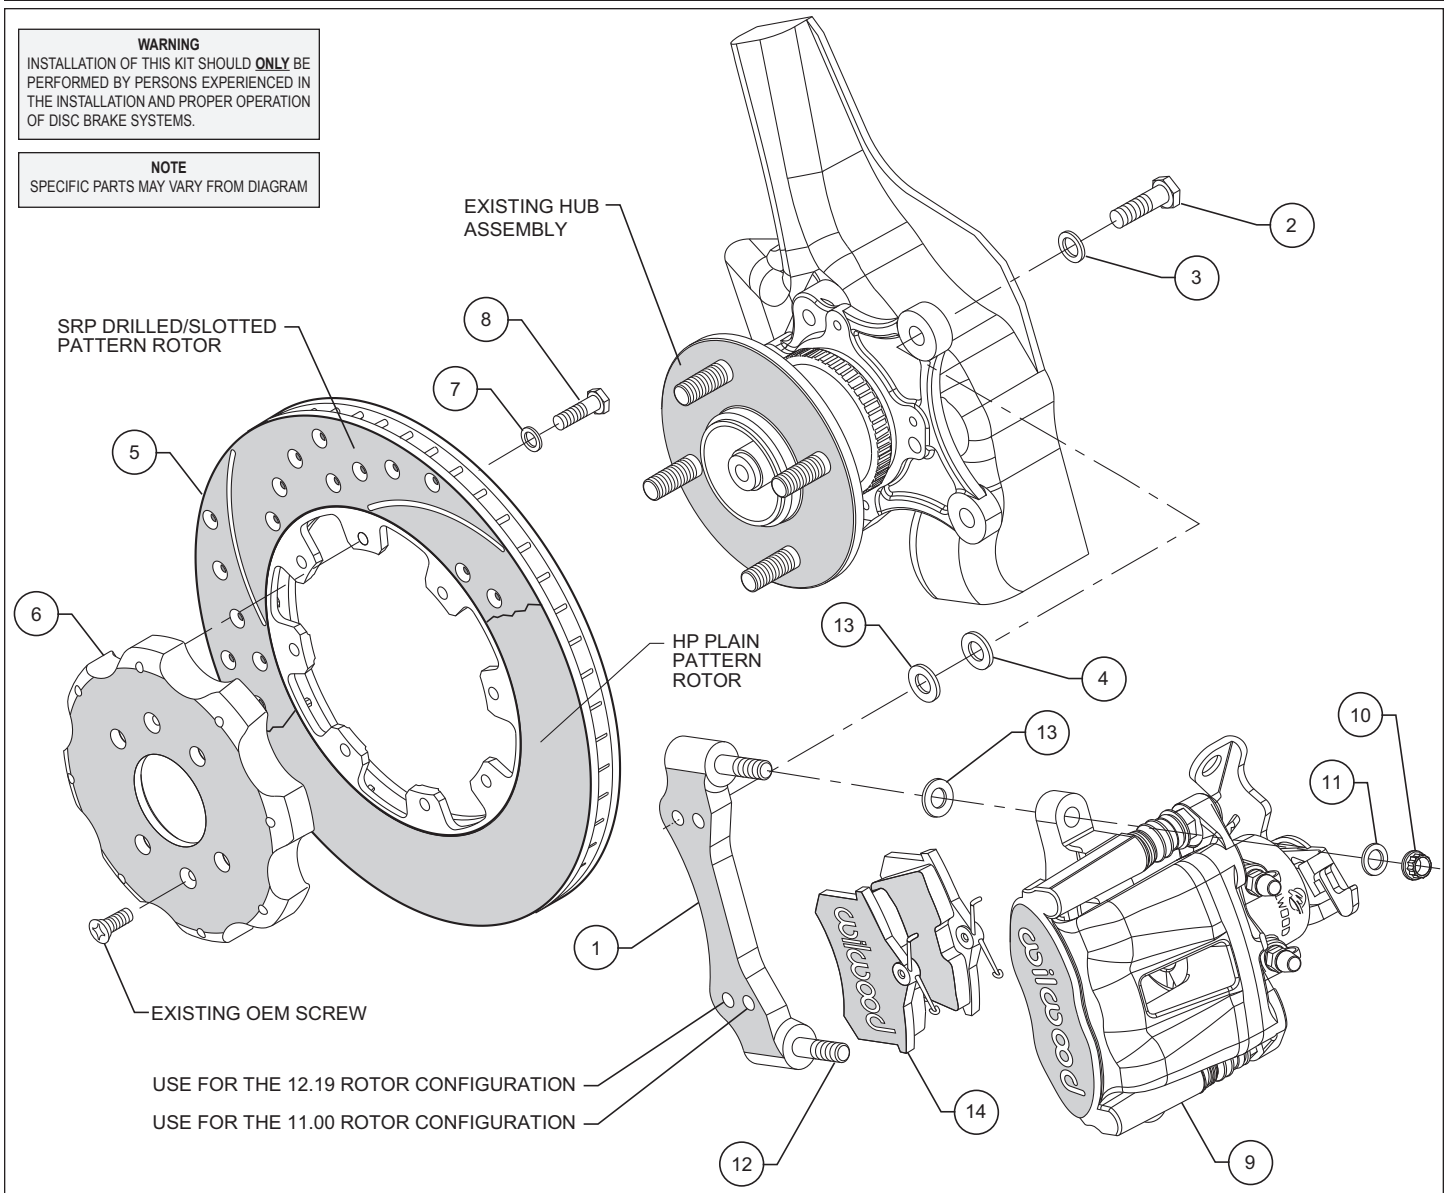
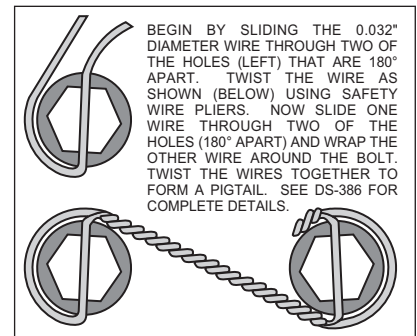

Figure 1. Typical Installation Configuration
Figure 3. Safety Wire Diagram
- The caliper mounting bracket (1) should be installed first with clean, dry threads on the mounting bolts. Install the bracket (1) on the outboard side of the hub assembly by sliding bolt (2) from the inboard side of the hub assembly through washer (3) through the existing OEM caliper mounting holes and thread into lower holes in bracket (1) (see figure 1). Place two shim washers (13) between the hub assembly and the caliper mounting bracket (1). The mounting bracket (1) must tighten squarely against the outboard side of the hub assembly face. Inspect for interference from casting irregularities, machining ridges, burrs, etc. Use two shims (13) between the mounting bracket (1) and the hub assembly during initial trial fitting.
- With the larger I.D. side of the rotor (5) facing away from the hat (6), attach rotor (5) to hat (6) using washers (7), and bolts (8) as shown in Figure 1. Using an alternating sequence, remove bolts (8) one at a time, apply red *Loctite*® 271 to the threads, and torque to 180 in-lbs. Safety wire bolts (8) using standard 0.032 inch diameter stainless steel safety wire as shown in Figure 3. Please refer to Wilwood's data sheet DS-386 (available at www.wilwood.com/Pdf/DataSheets/ds386.pdf) for complete safety wire installation instructions.
- Slide the brake pads (14) up into the caliper (9) from the bottom until the "v" spring clip snaps into place against the anvil. They should install easily without interference.
- Lubricate caliper mounting studs and nuts with lightweight oil. Install two shims (13) over each stud (12) on the radial mount bracket (1). Slide the caliper (9) in place over the studs and rotor and install the washer (11) and lock nut (10) to hold the caliper in place. The caliper bleed screw should be pointing toward the rear of the vehicle. Snug the lock nuts (10) and check that the caliper (9) is centered over the rotor (5). Add or subtract .016" shims (4) and/or .035" shims (13) as necessary between the caliper mounting bracket (1) and the spindle face to center the caliper (9) on the rotor (5).
- Check that the outside radius of the brake pad (14) is aligned with the outside diameter radius of the rotor face. Add or subtract shims (13) between the caliper (9) and caliper mounting bracket (1) to gain the proper alignment.
- Once all clearances have been checked, remove the wheel, caliper and rotor from the axle flange. Secure the caliper mounting bracket (1) to the spindle face while applying red *Loctite*® 271 on the bolt threads (2). Torque the bolts (2) to 22 ft-lbs. Reinstall the rotor and again use several lug nuts to hold it in place being sure to align the small countersunk holes in the hat (6) with the corresponding holes in the hub (if applicable). Reinstall the caliper, torque the caliper nuts (10) to 30 ft-lbs.